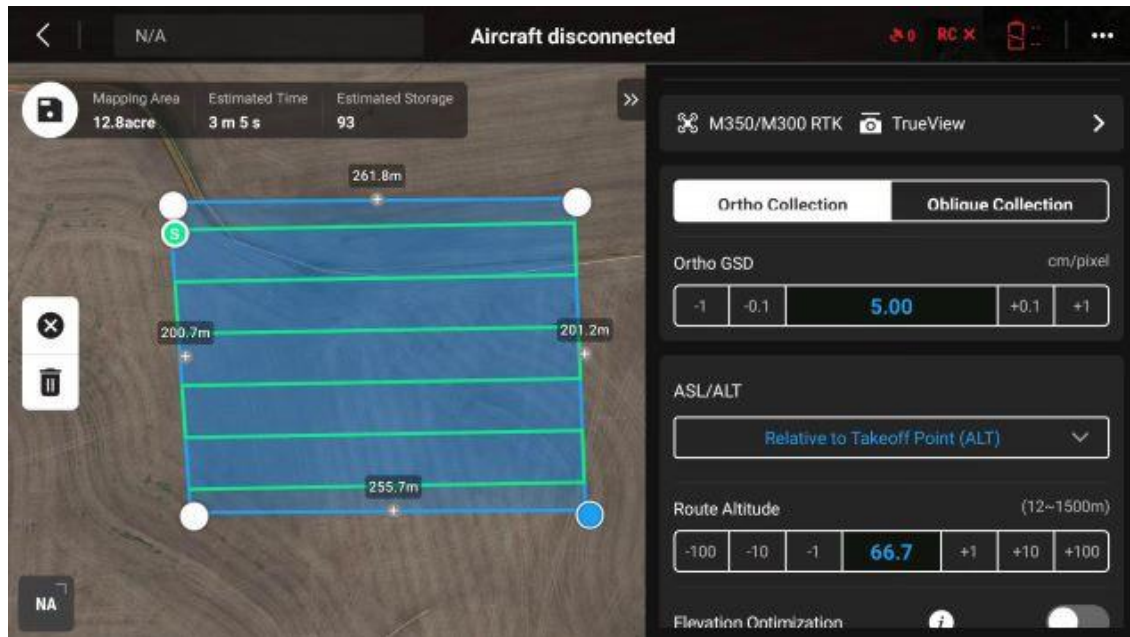

Figure 34: Pilot 2 auto flight lines
- There will be a “Mission Start” menu on the right side of the page (Figure 34). This is basically your mission settings that will be applied to all waypoints. Set the initial waypoint altitude to your planned mission flying height. Set the Flight Speed to 5 m/s (11.2 mph). The camera and Vehicle Info settings are irrelevant. Launch position should be automatically set to the ground level.
6. Once saved it is then possible to have properly spaced flight lines to be auto created by simply moving your survey polygon boundary points around the map (Figure 34). These flight lines will also be auto adjusted by the altitude of your mission. The desired overlap can also be increased depending on what is needed.